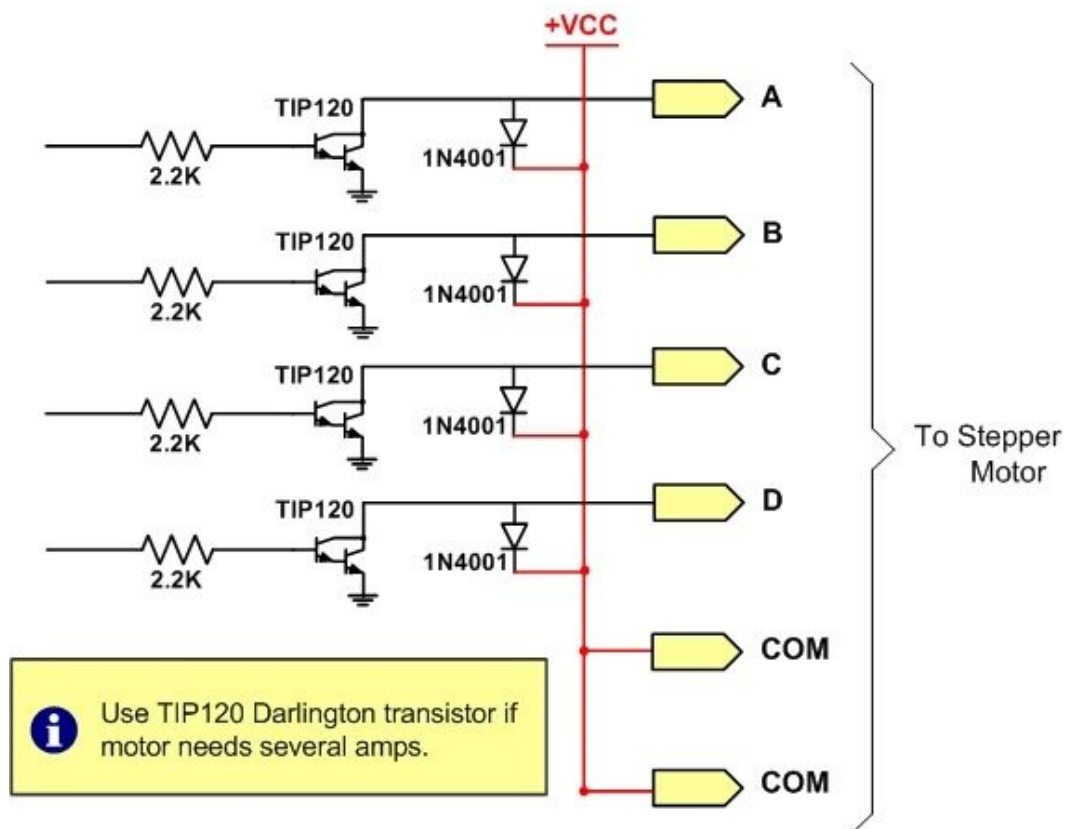

Figure 10-11: Using Transistors for Stepper Motor Driver
3. The four leads of the stator winding are controlled by four bits of the ARM port (PB0–PB3). Because the microcontroller lacks sufficient current to drive the stepper motor windings, we must use a driver such as the ULN2003 (or ULN2803) to energize the stator. Instead of the ULN2003, we could have used transistors as drivers, as shown in Figure 10-11. However, notice that if transistors are used as drivers, we must also use diodes to take care of inductive current generated when the coil is turned off. One reason that using the ULN2003 is preferable to the use of transistors as drivers is that the ULN2003 has an internal diode to take care of back EMF.
Unipolar stepper motors can be controlled using the basic interfacing shown in Figure 10-11, whereas the bipolar stepper requires H-Bridge circuitry. Bipolar stepper motors require a higher operational current than the unipolar; the advantage of this is a higher holding torque.
Figure 10-11 shows an interface to a unipolar stepper motor using transistors. Diodes are used to reduce the back EMF spike created when the coils are energized and de-energized, similar to the electromechanical relays discussed earlier. TIP transistors can be used to supply higher current to the motor. Table 10-8 lists the common industrial Darlington transistors. These transistors can accommodate higher voltages and currents.